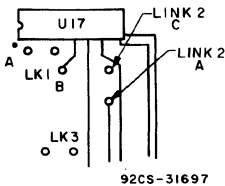

Fig. 3 - Location of A and C of link LK2 on UART Interface Module CDP18S508.
1. Connect A and C of link LK2 together. See Fig. 3.